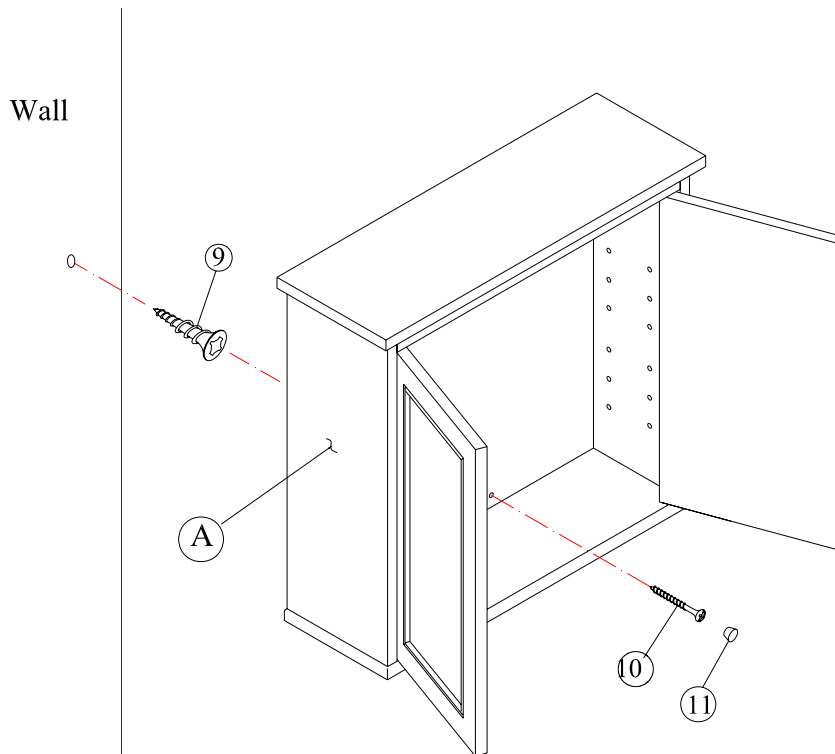

Figure 5
Determine the final position of the storage. With a pencil, mark the location of the anchor. Use a Phillips Screwdriver to insert the anchor at the mark. Do not “push” or drive the anchor into the wall, it is designed to bore into the wall like a drill bit. Slowly turn the anchor clockwise while applying pressure until the flange just touches the wall. If using a power drill, use caution as the hardware can strip. Insert the anchor screw through back panel bottom pre-drilled hole to mount wall storage to anchor installed on wall. Cover the screw hole with wooden plug (11). Figure 5